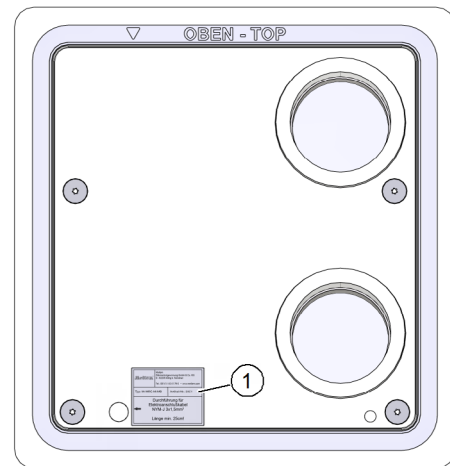

Fig. 3: Nameplate beside the hole for the mains cable
- beside the hole for the mains cable (item 1 in Fig. 3)